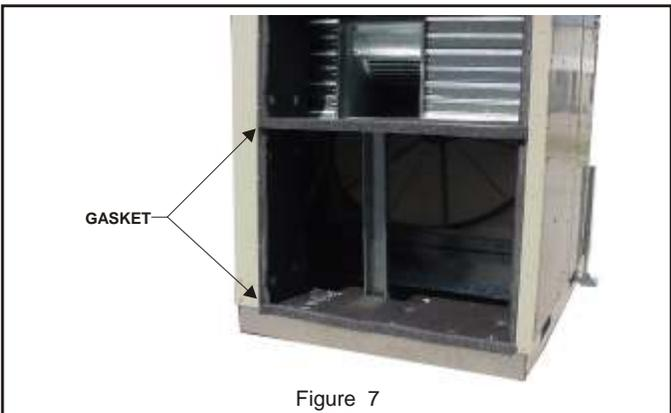

Figure 7
1. Apply $\frac{3}{4}$ " x $1\frac{1}{4}$ " gasket to top and bottom decks of ERS as shown in the figure. **See Figure 7.**